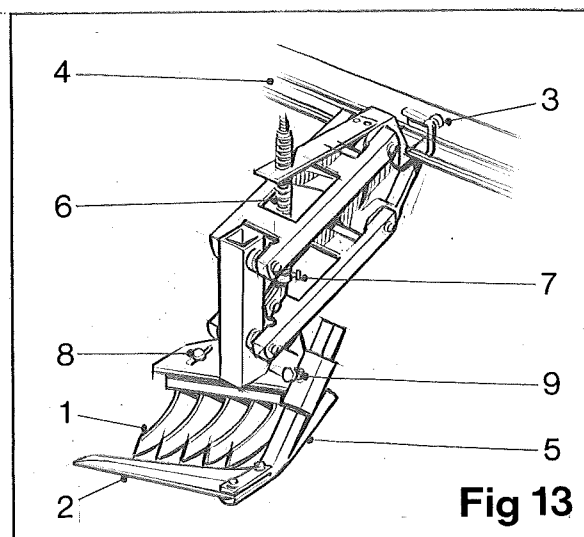

Fig 13
The purpose of the scalper unit is to crown the beet cleanly and squarely by the use of a comb (item 1, fig 13) which runs on top of the beet holding it steady while the knife (item 2, fig 13) crowns it.
The scalper units are adjustable for varying row widths. To adjust, slacken the retaining bolt (item 3, fig 13) and slide the complete unit along the tool bar, (item 4, fig 13) to the required position. Ensure that the knife is topping the beet as close to the knife arm (item 5, fig 13) as possible.
A very important part of the scalper unit is the tension of the spring (item 6, fig 13). The spring is designed to give a downward pressure on the knife. Enough pressure should be given to return the comb (item 1, fig 13) and the knife to successfully top a low beet after topping a high beet. Simultaneously too much pressure will force the knife to dig into the highest beet causing too much to be removed or the beet may be pushed over. To adjust the spring, slacken the retaining screw in the stop collar (item 7, fig 13) and reposition it to give the required amount of pressure.
The comb (item 1, fig 13) should ride onto the beet before the knife starts to cut. For this reason the comb is made adjustable backwards and forwards. The comb should be forward (further away from the knife) for large beet and backwards for small beet. To adjust, slacken the two setscrews (item 8, fig 13) and slide the comb in the required direction to the correct position.
The amount of beet crown removed by the knife is determined by the distance between the comb and the knife. To adjust, slacken the retaining bolt (item 9, fig 13) and slide the knife arm (item 5, fig 13) to the required position.